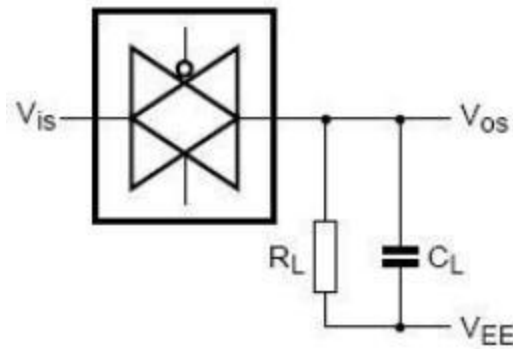

Figure 9. Square wave distortion degree of cut-off frequency and conduction frequency test pattern
- [3] $R_L=1k\Omega$; $C_L=5pF$, channel off, $20\log V_{os}/V_{is}=-50dB$, see Figure 9.
- [4] $R_L=1k\Omega$; $C_L=5pF$, channel on, $20\log V_{os}/V_{is}=-3dB$, see Figure 9.